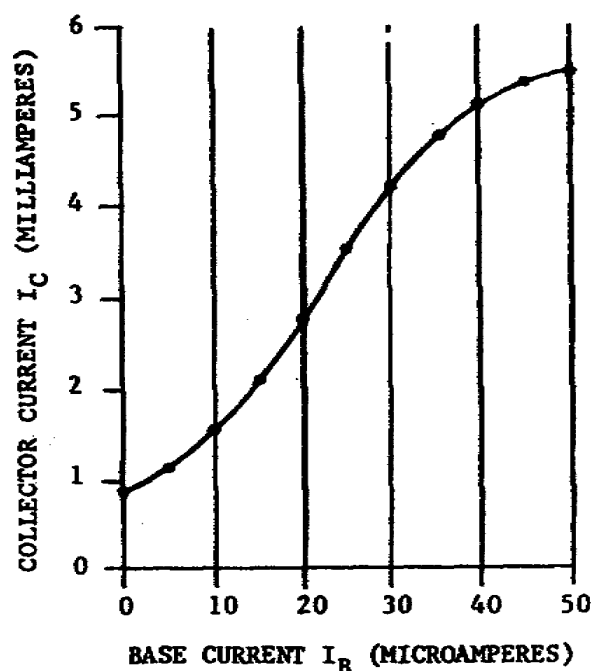

Figure 2-3. Typical transistor characteristic curve.
b. Transistor Characteristic Curve. Transistors have characteristic curves similar to the curves for electron tubes. In figure 2-3 the characteristic curve (base current vs collector current) shows that at the high and low current portions of the curve ( $I_B = 0$  to 10 and 35 to 50 microamperes) the amount of collector current change is not the same for each microampere of change in base current. The curve is nonlinear in these areas. Between the extremes ( $I_B = 10$  to 35 microamperes), the collector current will change approximately the same amount for each microampere of change in base current. This portion of the characteristic curve is linear.